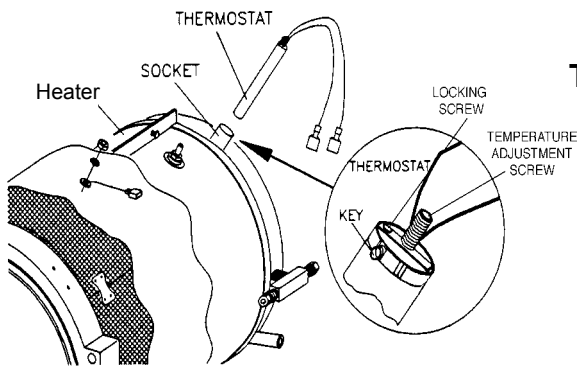

Figure 25: Thermostat (EC5500)
3. Locate thermostat: EC5500 — Remove top cover (see Figure 25). EC6000 — On the back of the unit, remove the 1-1/4" cover located in the bottom center of the back.
4. Loosen the locking screw on the thermostat (see Figure 25).
3. Disconnect wire leads (see Figure 25).